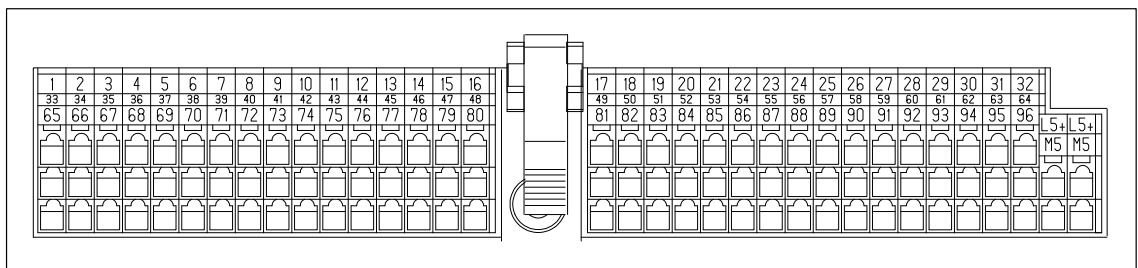

Figure 7-12 Terminal Numbering: Terminal Block TB4/DC (Spring-Latch Terminal)
**Terminal Numbering** Figure 7-12 is an enlargement of the terminal numbering printed on the TB4/DC (spring-latch terminal).